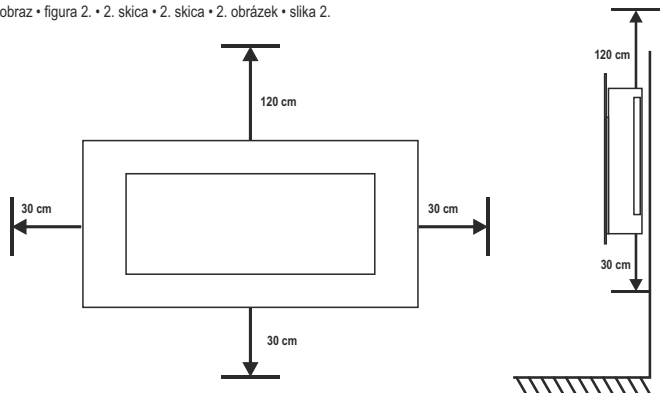

figure 3 • 3. ábra • 3. obraz • figura 3. • 3. skica • 3. skica • 3. obrázek • slika 3.
7. According to Figure 3, fasten the wall mount (9) horizontally to the wall at the desired location using the included screws and dowels. The recommended 600 mm installation height is not mandatory, however, the minimum height of 300 mm above the floor must be observed! The wall mount should be flush with the wall. Please take into account the wall's bearing capacity!
8. Using the 2 included small screws attach the lift-off prevention plate (10) onto the bottom of the heater so that the plate is flush with the wall surface.